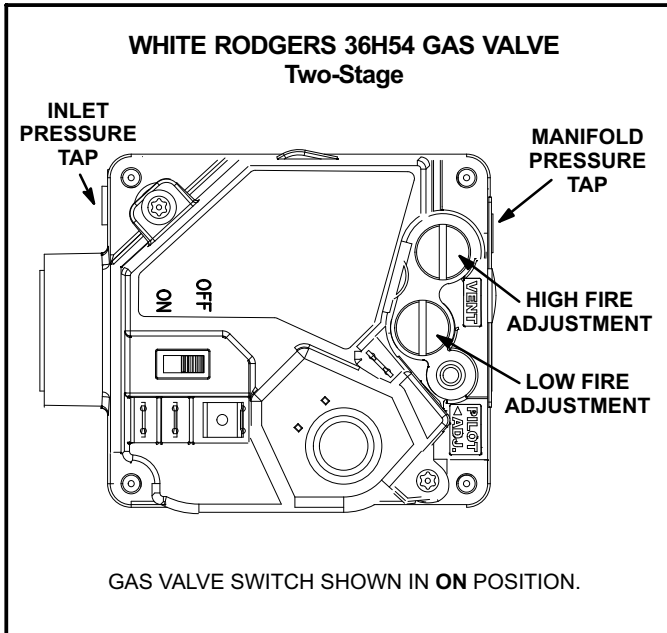
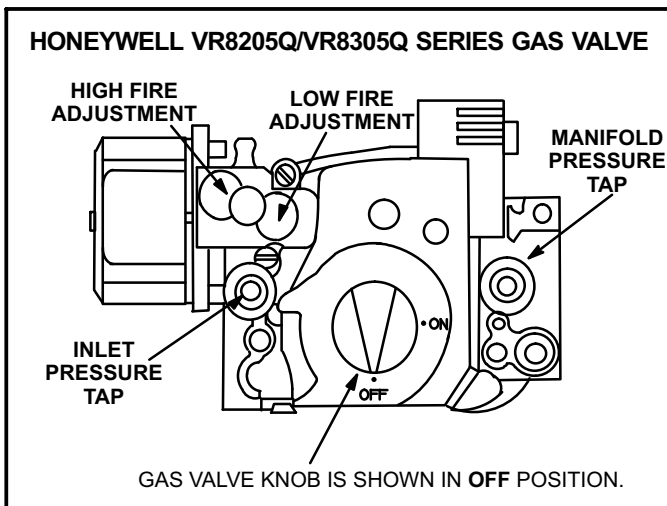

FIGURE 25
FIGURE 26
Gas Valve Operation for Honeywell VR8205Q/VR8305Q and White Rodgers 36H54 (figure 25 and 26)
- 6- Turn gas valve switch to **OFF**. See figure 25. On Honeywell VR8305Q gas valves, turn the knob on the gas valve clockwise  to "**OFF**". Do not force. See figure 26.
- 7- Wait five (5) minutes to clear out any gas. If you then smell gas, **STOP!** Immediately call your gas supplier from a neighbor's phone. Follow the gas supplier's instructions. If you do not smell gas, go to the next step.
- 8- Turn gas valve switch to **ON**. See figure 25. On Honeywell VR8305Q gas valves, turn the knob on the gas valve counterclockwise  to "**ON**". Do not force. See figure 26.